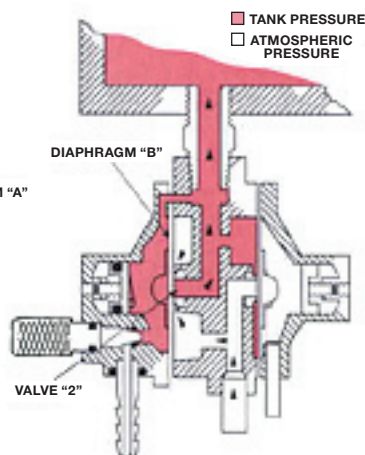

FIGURE 3
3. When the vessel is operating under vacuum conditions, the negative pressure creates a force on diaphragm "B" opening valve seat "2". This allows air to bleed into the vessel and limit the vacuum as shown in Figure 3.